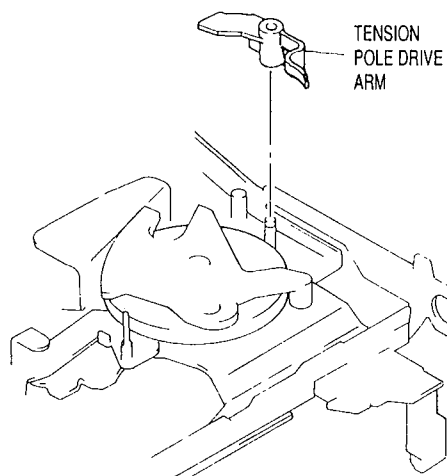

Fig. 3-34
- 1) Pull out the tension pole drive arm. (See Fig. 3-34)